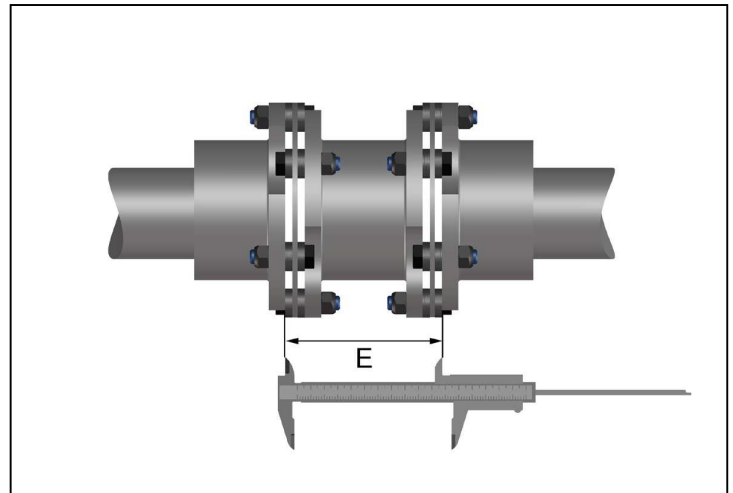

Fig. 8
- Before installing the spacer measure the actual length dimension 'E' of the spacer over the bushes of the disk packs (Fig. 8).